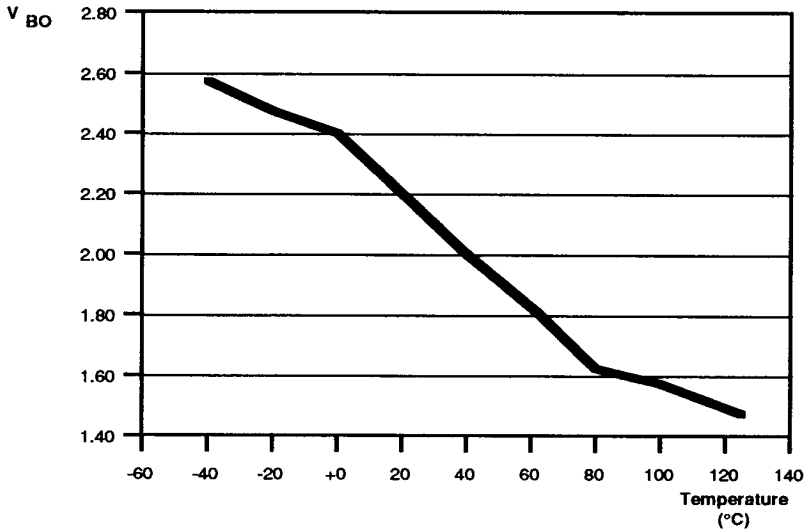

Figure 21. Voltage Sensitive Reset Vs Temperature
**Vcc Voltage Sensitive Reset (VSR).** Reset is globally driven if Vcc is below the specified voltage (Figure 21).